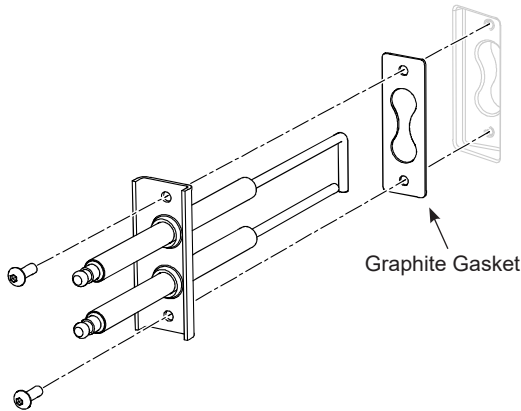

Figure 30: Igniter Electrode Assembly
- Install igniter electrode in the orientation shown in Figure 30; otherwise, the unit will not light.